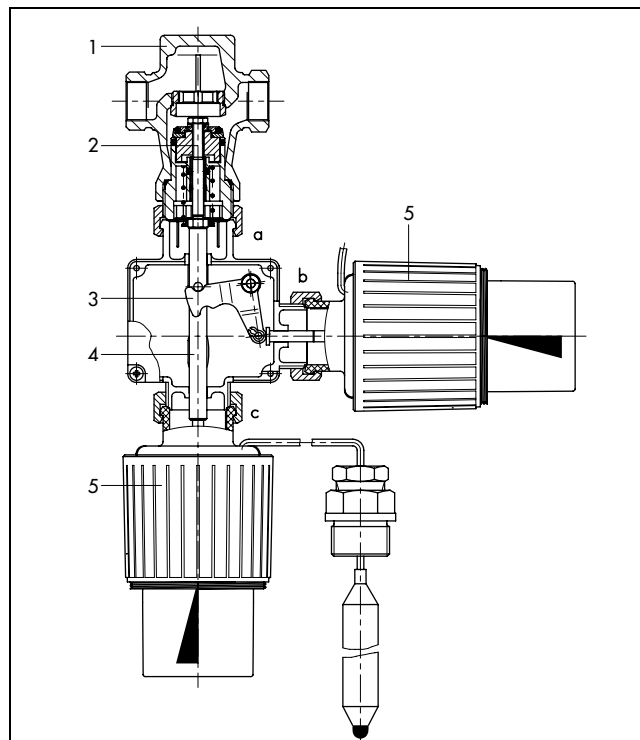
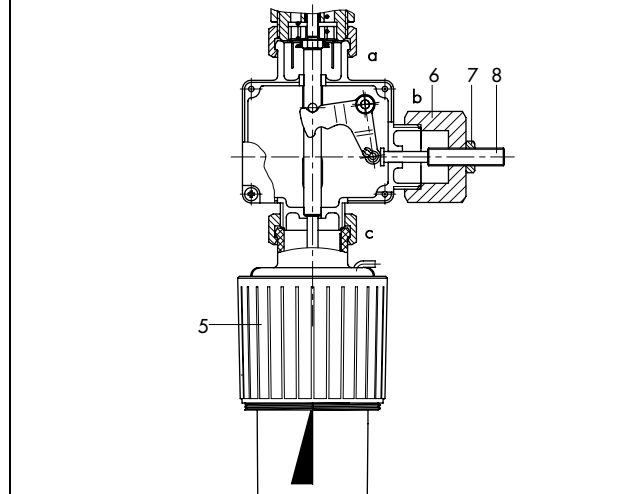

Fig. 3 · Type 2431 K Valve and Double Adapter Do3 K with two Type 2430 K Thermostats
Fig. 4 · Double Adapter Do3 K, Type 2430 K Thermostat and manual adjuster
**Double Adapter Do3 K with manual adjuster** (Fig. 4) · To manually close the valve or to limit its travel · Connection *c* for control thermostat, connection *b* for manual adjuster.
**Principle of operation** (Figs. 3, 4, and 5)
The **double adapter** mounts between the valve (1) and the control thermostat (5) and allows two control thermostats to be attached to connections *b* and *c* (Fig. 3). A manual adjuster can be attached to the double adapter at connection *b* to limit the valve travel (Fig. 4).